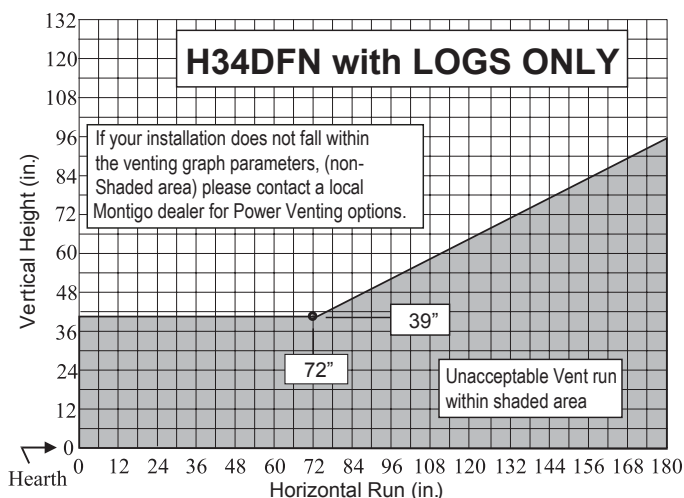

Figure 14. H34DFN Top Vent Venting Graph for wall mounted terminations, See Figures 14a or 15b.
Once the proposed venting layout has been determined refer to Figure 14, 15, or 16 to ensure the layout is acceptable.
- Venting runs *must* fall within the limits set by the venting graph, see Figure 14 or 15.
Measure the vertical height from the fireplace hearth to the centre of the termination and the horizontal run from the fireplace flue collar to the wall flange of the termination. Plot on the Venting Graph Figure 14 or 15 with an 'X'. If the 'X' falls on or above the top boundary of the shaded area, the installation is acceptable.
Figure 14a. H34DFN Top Vented, wall mounted installation with 1 elbow (1 one 90° bend). The vent run must comply with Venting Graph for Top vent, wall mounted terminations, Figure 14.